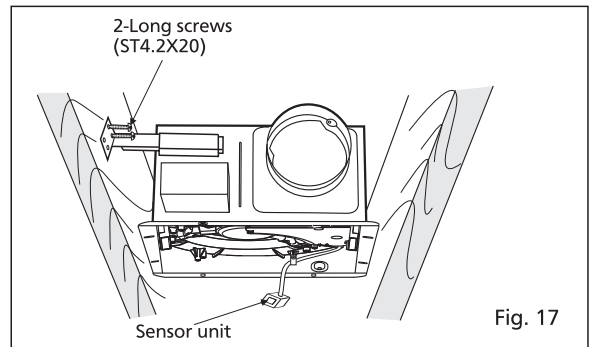

Fig. 17
3. Secure the suspension bracket to joists by using long screws (ST4.2X20). (Fig. 17, Fig. 18)